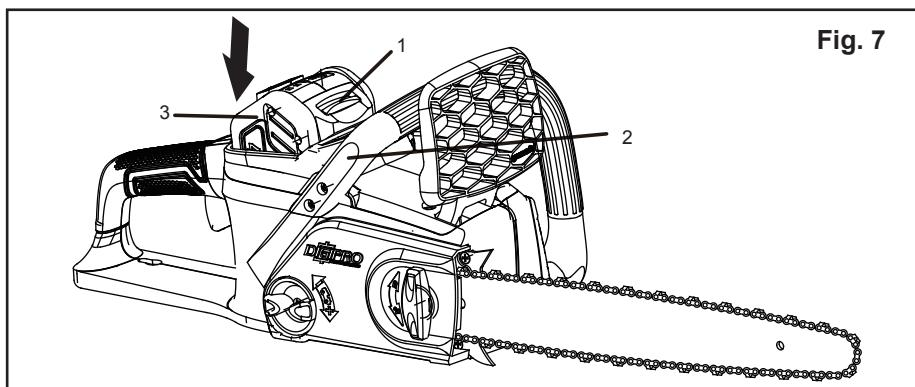

Fig. 7
BATTERY PACK (See Figure 7)
- Fit the battery pack into the chain saw (see figure 7).